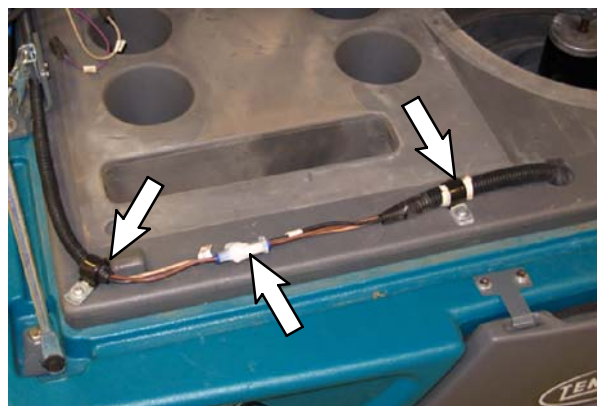

FIG. 4
11. Remove the clamps holding the main harness to the cyclone assembly and disconnect the main harness from the cyclone assembly. Set the removed parts aside. Refer to Fig. 4.